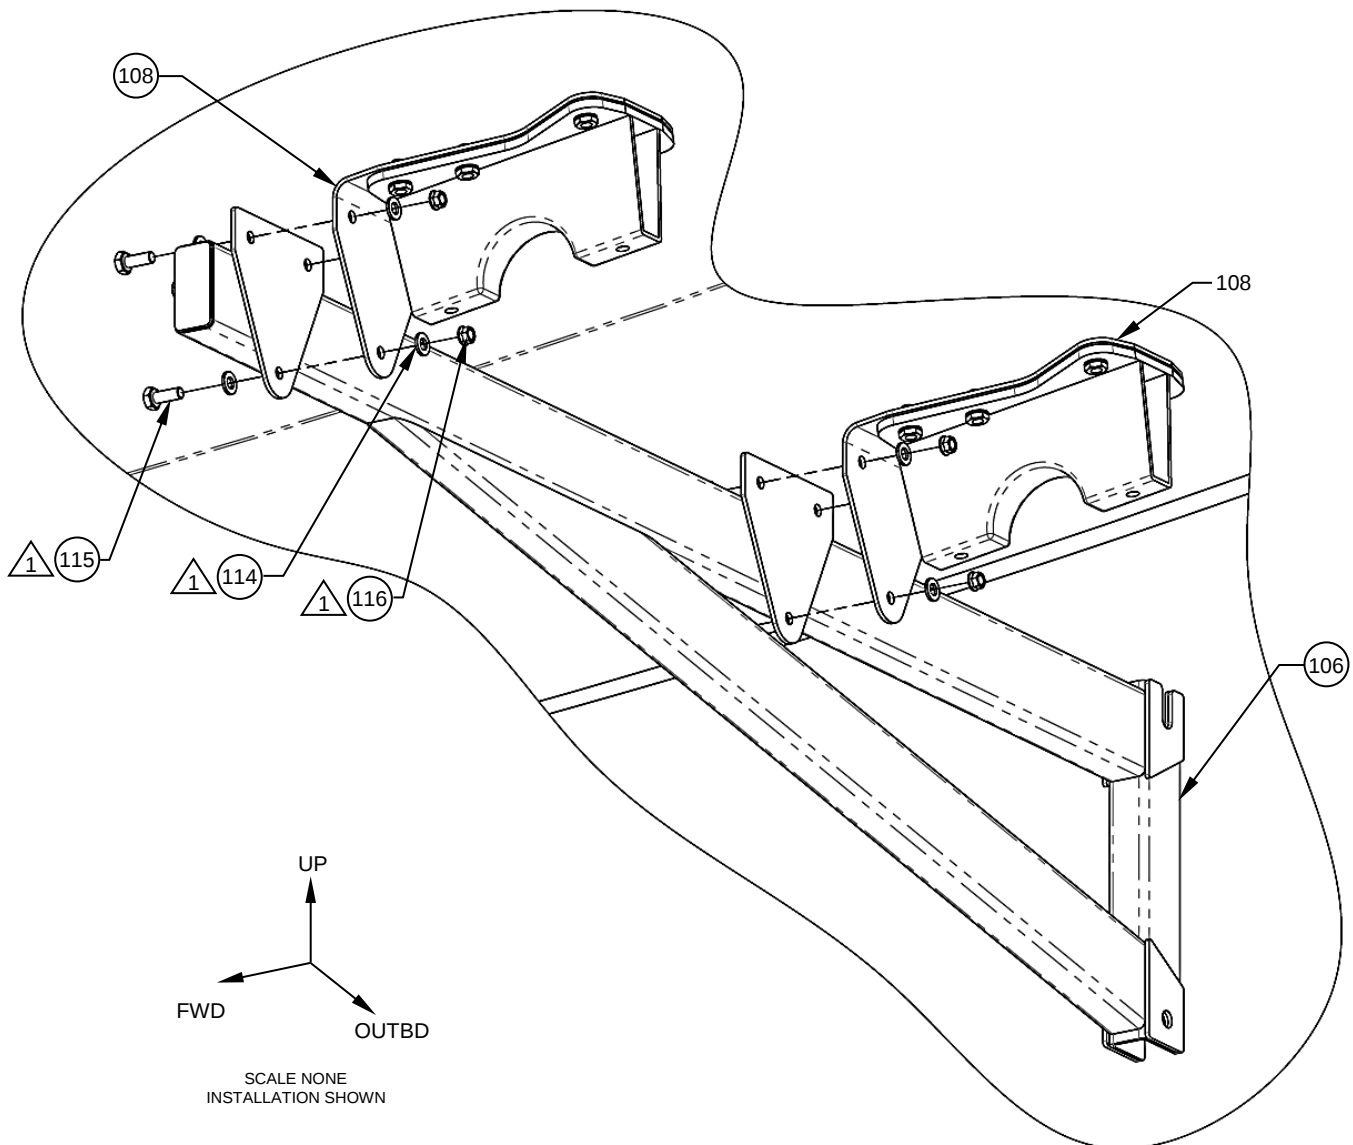

Figure 5
2. To remove AFT Attachment Arm Assy, (Item 106), from the 2X AFT Attachment Bracket, (Item 108), remove 6x Bolt, Machine, (Item 115), 6x Nut, Self-Locking, (Item 116), and 12x Washer, Flat, (Item 114). Reference Figure 5.